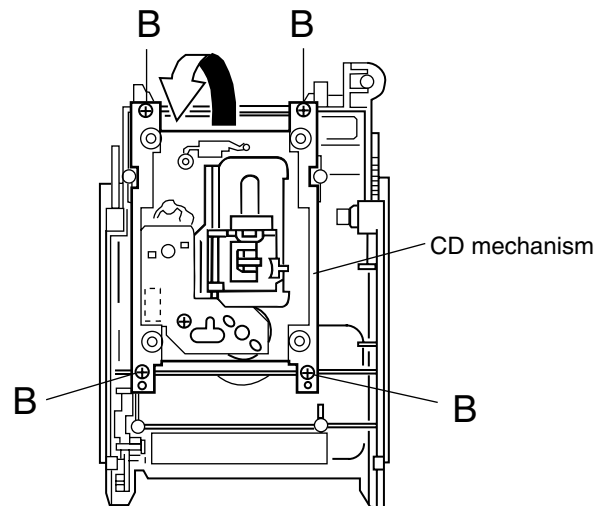

Fig. 2
2. When the flywheel R is rotated in counterclockwise direction, the playback / recording & eraser head will be turned in counterclockwise direction from the position in Fig. 2 to that in Fig. 3.